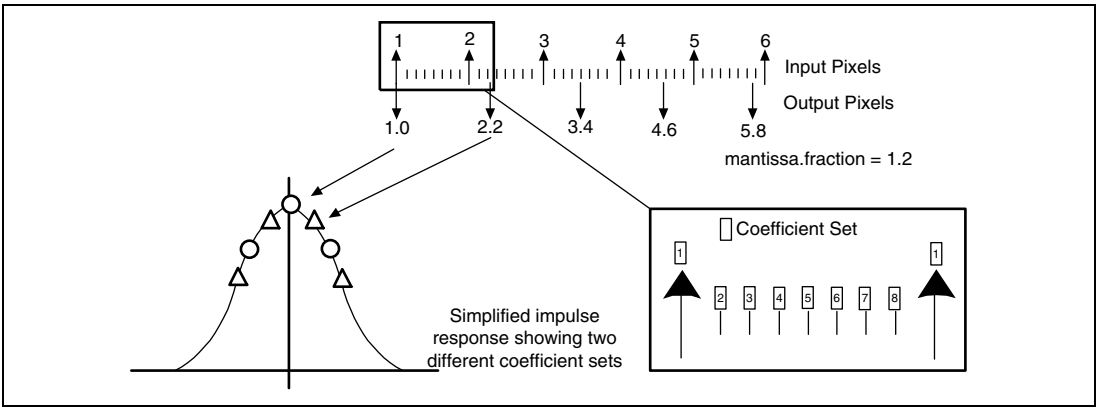

Figure 9.6 Pixel Position and Coefficient Set Selection
This module performs horizontal scaling using a nine tap multiphase filter. In the x direction only down scaling is supported. The mantissa.fraction combination set in the X Scale (XS) Register determines the pixel position at which a pixel is produced from the polyphase filter. The selected coefficient set is one of eight coefficient sets, which is determined by the output pixel position. Figure 9.6 shows an example with the mantissa.fraction set to 1.2. In this case, the coefficient set C2 is selected.